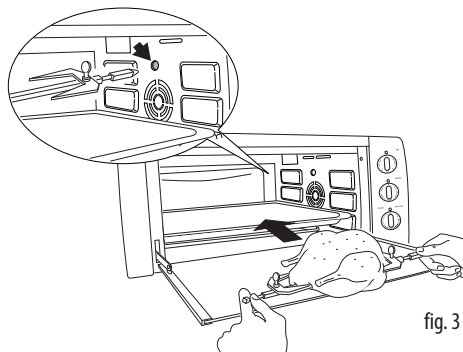

fig. 3
- Insert the bake pan (H) in the guide 3 and the spit (I) in the turnspit mount (fig. 3).